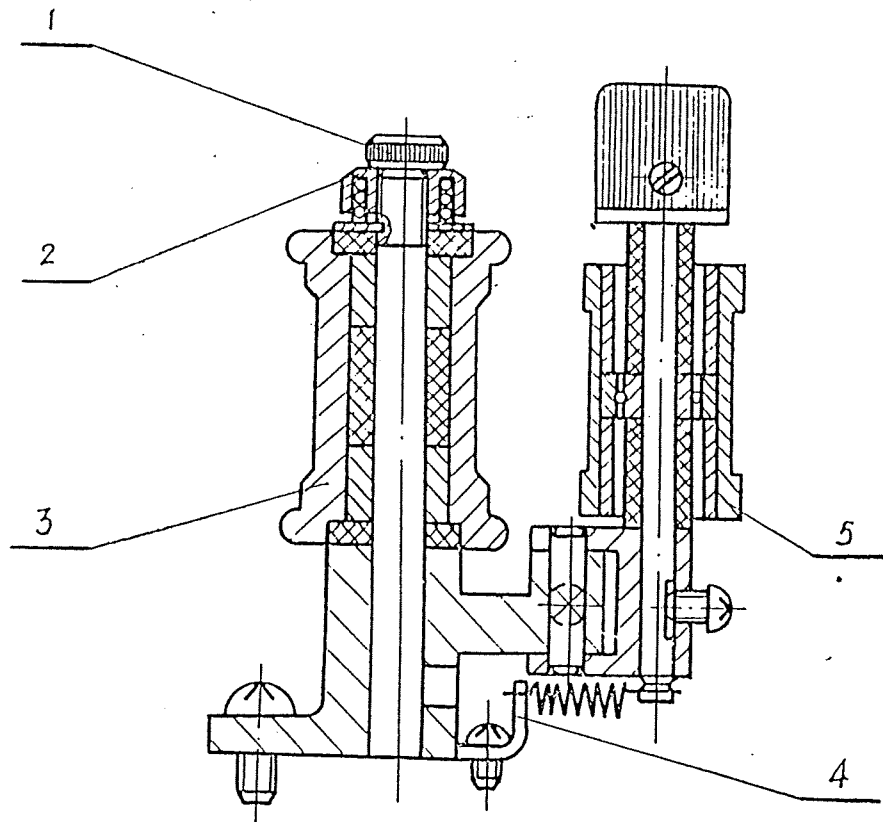

Fig. 4
The damper roller construction is showed as Fig 4. Loosen screw(1), turn nut(2), the friction of the roller(3) can be adjusted. The pressure of the pressure roller(5) is adjusted by turning the spring plate(4) angle to change the damper.